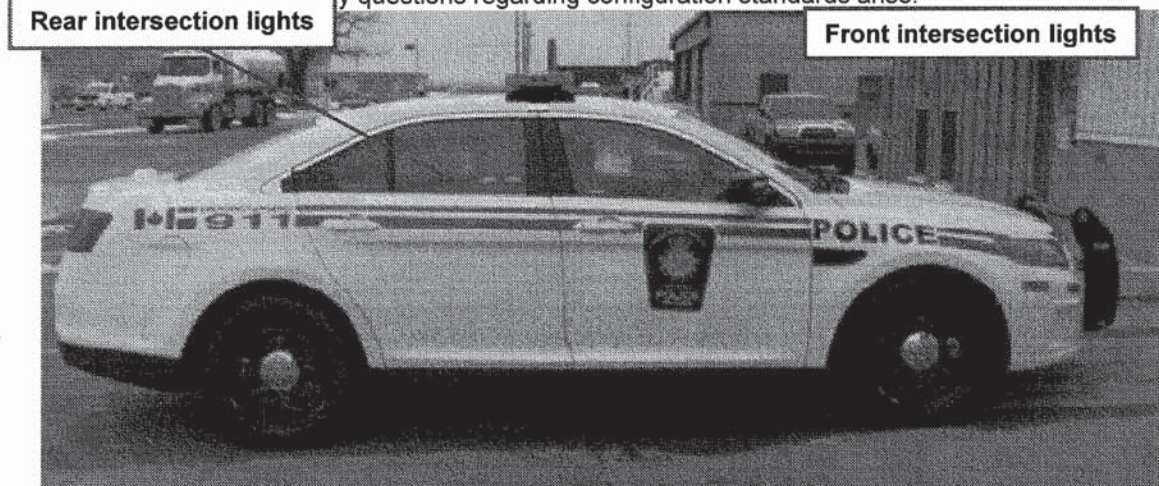

Figure 9 – Ford Police Interceptor Sedan - Side view
15. Ford Police Interceptor Sedan marked MP vehicle configurations are as illustrated in *Figures 9 to 12* below;